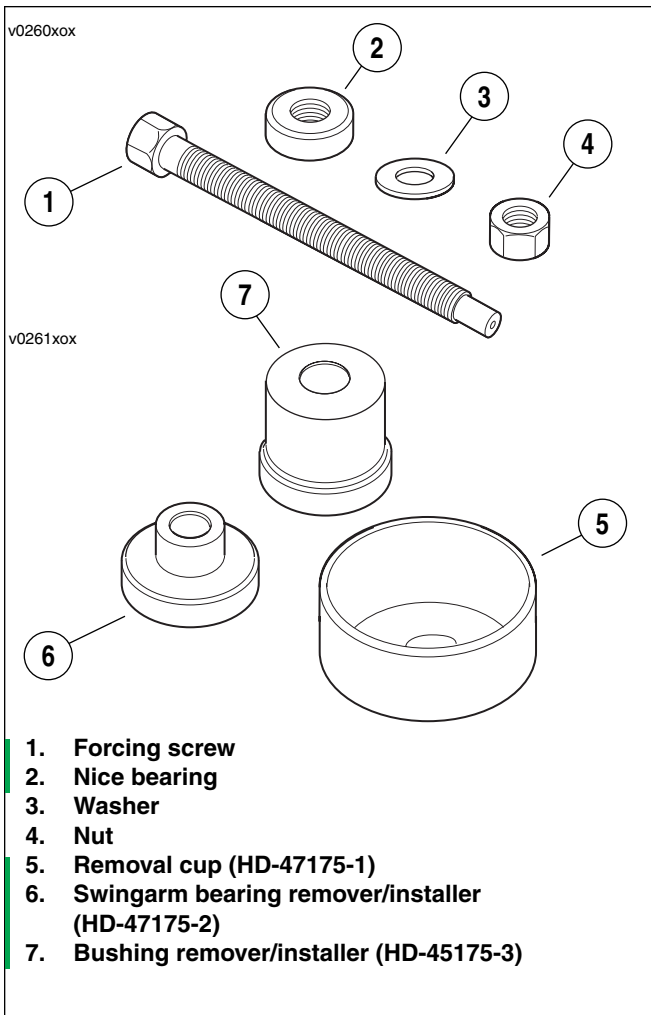

Figure 2-159. Parts Used From HD-44060-4 Kit (1-4) and Swingarm Bearing Installation Tool (HD-47175) (5-7)
The Swingarm Bearing Installation Tool (HD-47175) is used with parts from Wheel Bearing Removal/Replacement Kit (HD-44060-4) as shown in Figure 2-159. Parts used are, Forcing Screw (1), Bearing (2), Washer (3) and Nut (4) to replace the swingarm bearings on all 2005 and later VRSC model motorcycles.